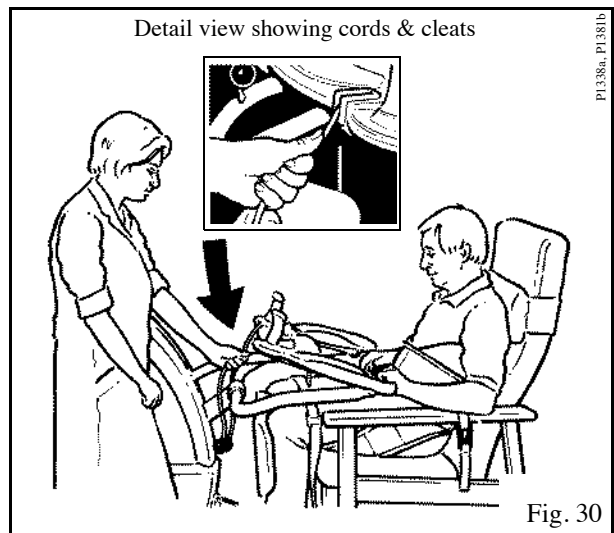

Fig. 30
**Warning:** Lock the adjustment cords down into the cord retaining cleats (see also Fig. 30).